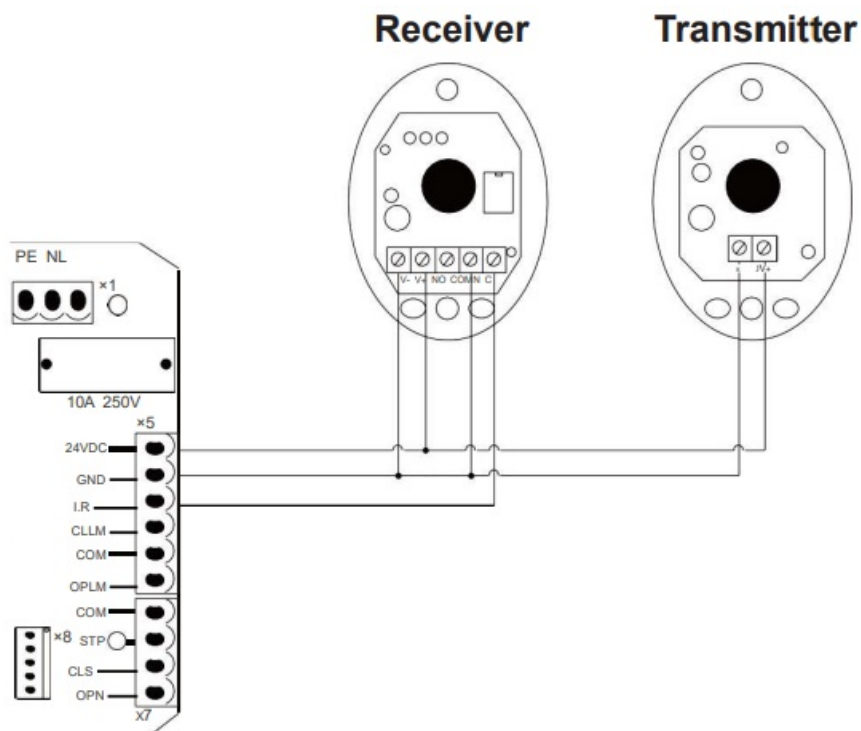

Figure 22
2. Connect the sensors' wiring to the control board according to Figure 22. The sensors' V+ pins should be connected to the 24V pin on the board; their V- pins and the receiver's COM pin should all be connected to the GND pin; and the receiver's
3. NC pin should be connected to the IR pin. Install the infrared sensor set (Z) near your gate at the positions prepared for them. If possible, cover or otherwise protect them from direct sunlight.